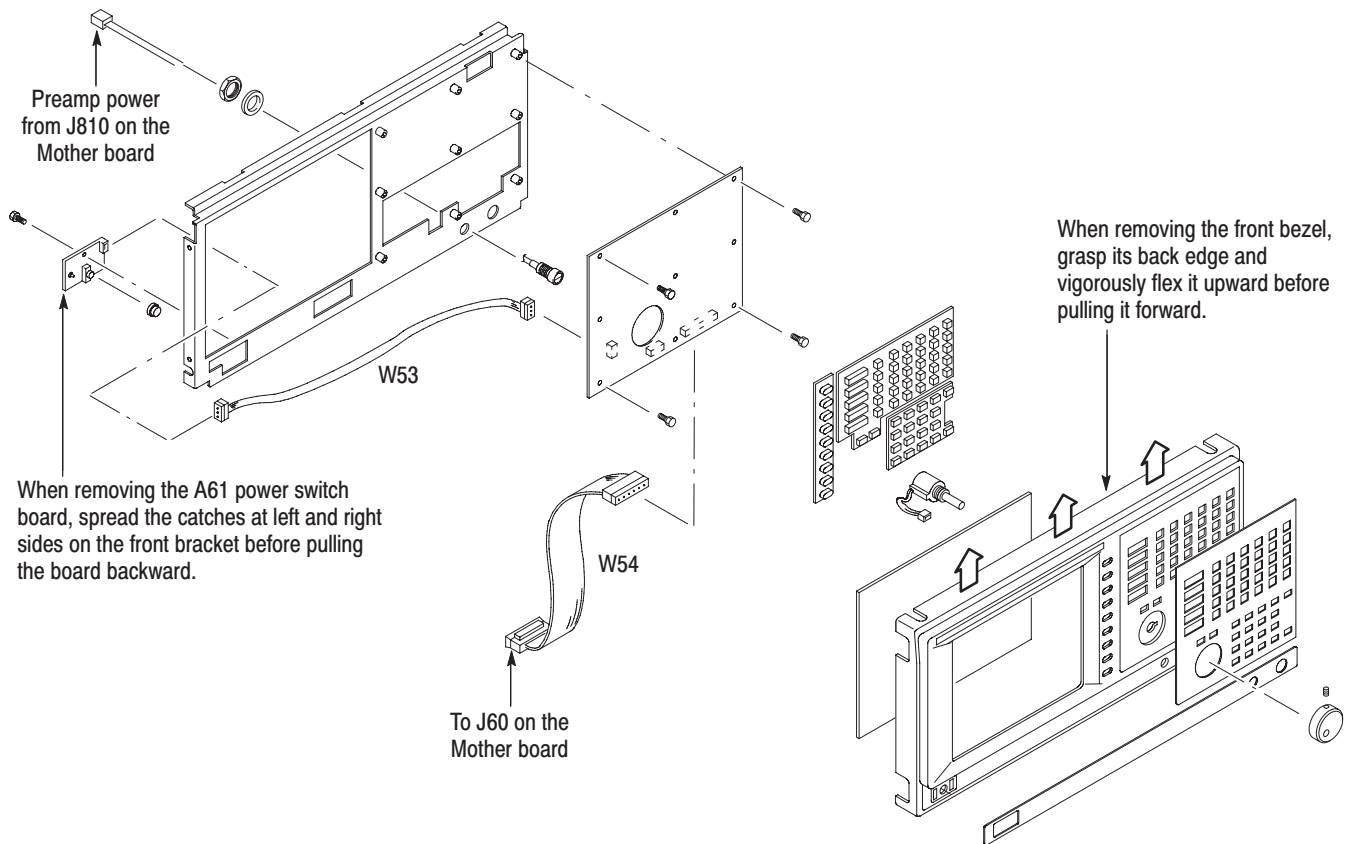

Figure 6-27: Front panel modules removal
3. *Remove the general purpose knob:* See Figure 6-27. Loosen the setscrew securing the knob using the $\frac{1}{16}$ inch hex wrench. Pull the knob away.
4. *Remove the rotary encoder:* See Figure 6-27.
3. *Remove the front bezel and menu buttons:* See Figure 6-27. Grasp the front bezel by its top edge, pry it up, and lift it forward to snap it off of the front bracket. If servicing the menu buttons, lift them out of the front bezel.